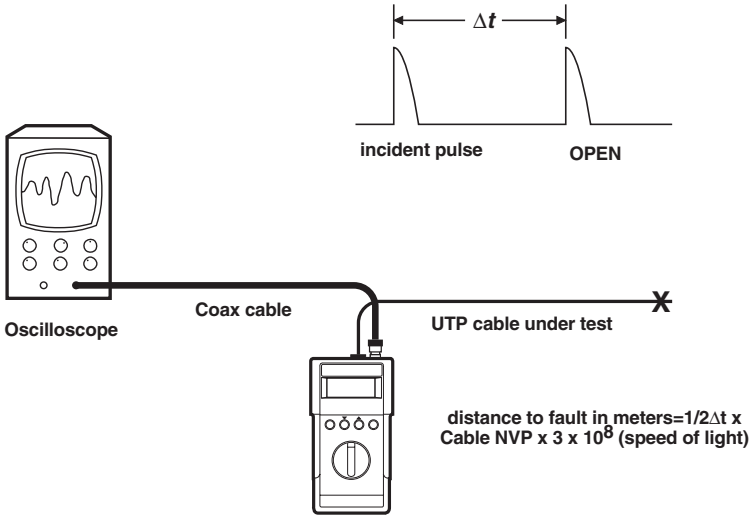

Fig. 6-5. Open.
- The incident and reflected pulses will be displayed on the oscilloscope screen. Sample waveforms are shown in Figures 6-5 and 6-6.